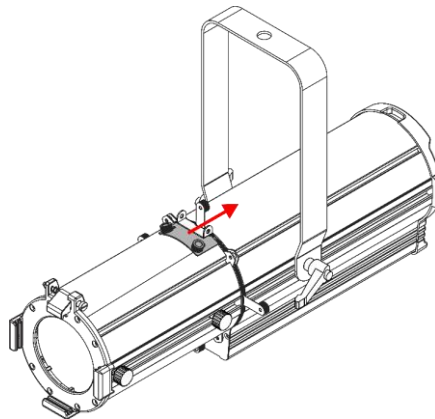

Fig. 20
- 06) Slide the **gobo slot cover plate (11)** towards the **gobo holder (12)** (see Fig. 20).